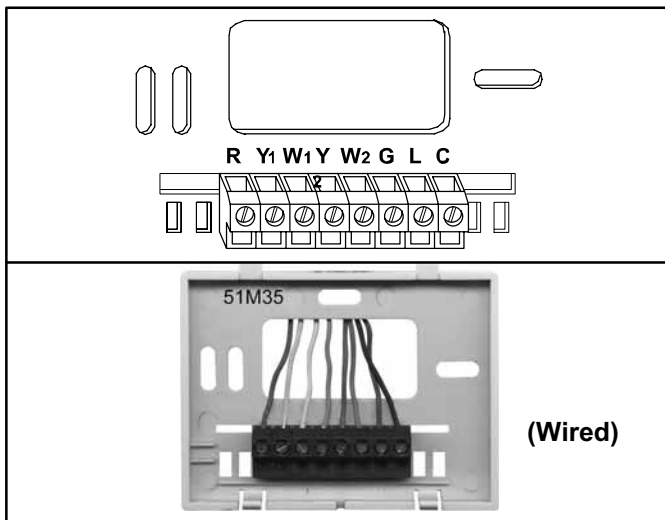

Figure 2. L3522C Terminal Strip
- L3522C - See table 2 and figure 2.